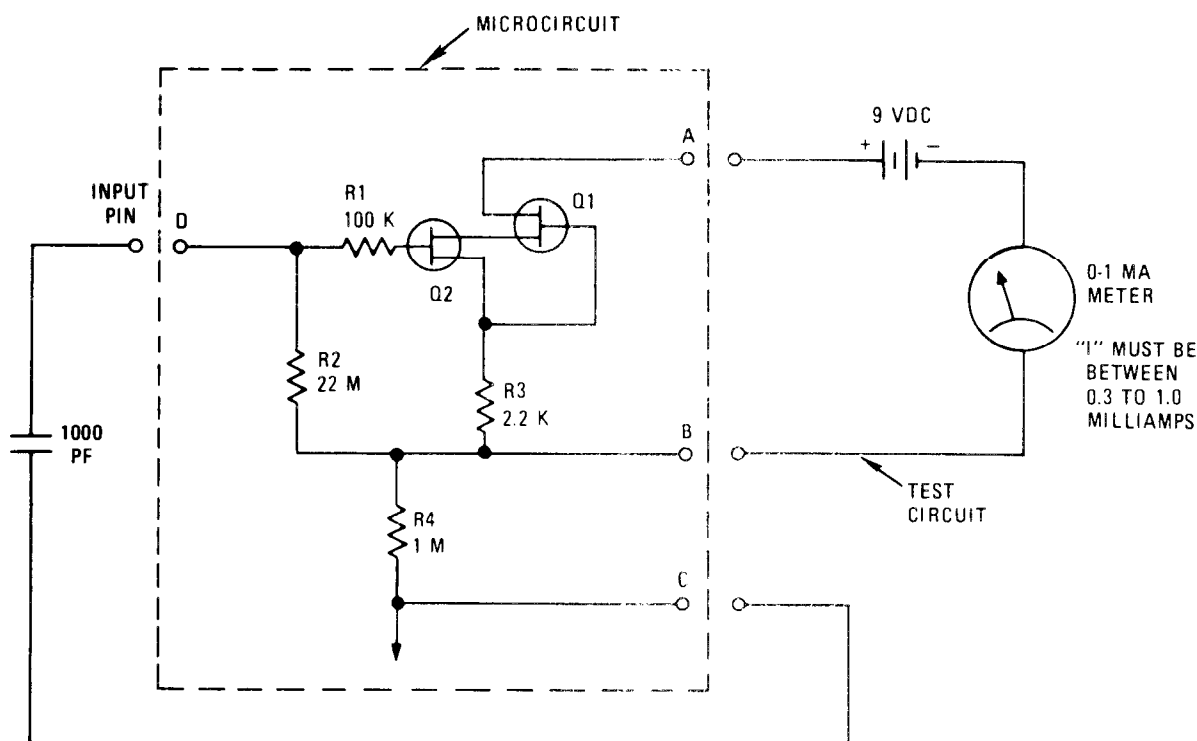

Figure 4-14. Accelerometer 4177B, Schematic Diagram
*a. Accelerometer.* These tests will determine the operational capability of the Accelerometer and Accelerometer Cables. Refer to Figures 4-14 & 4-15 for schematic diagrams of the Accelerometer and Accelerometer Cables and perform resistance checks in accordance with Table 4-10 & 4-11, respectively.